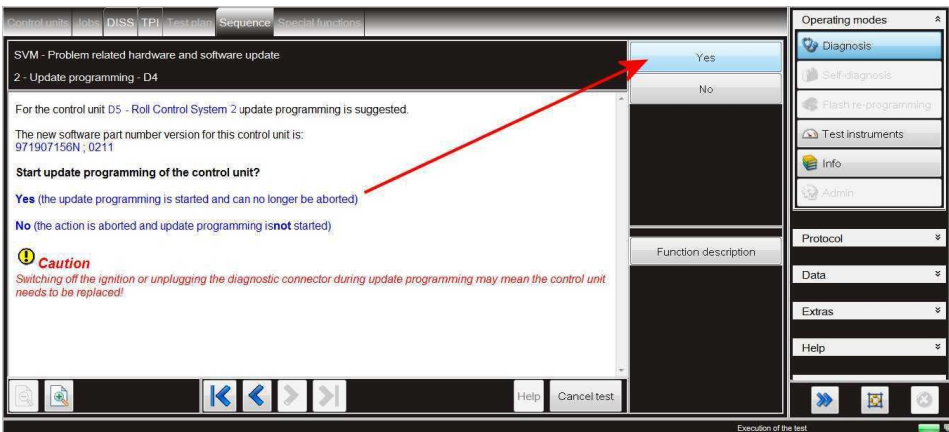

Figure 6
10. Once 74 - Chassis Control has been updated you will automatically be requested to update D5 – Roll Control System 2 (Figure 6) - Follow all instructions to update – D5 Roll Control System 2